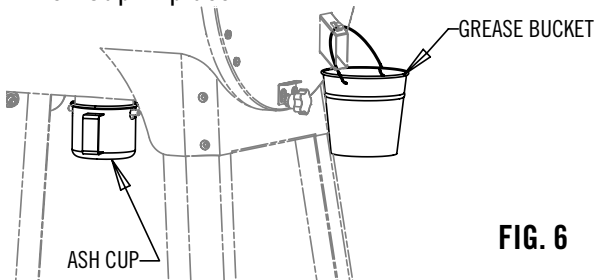

FIG. 6
1. Install Ash Cup as shown in Fig 6. Never use grill without Ash Cup in place.